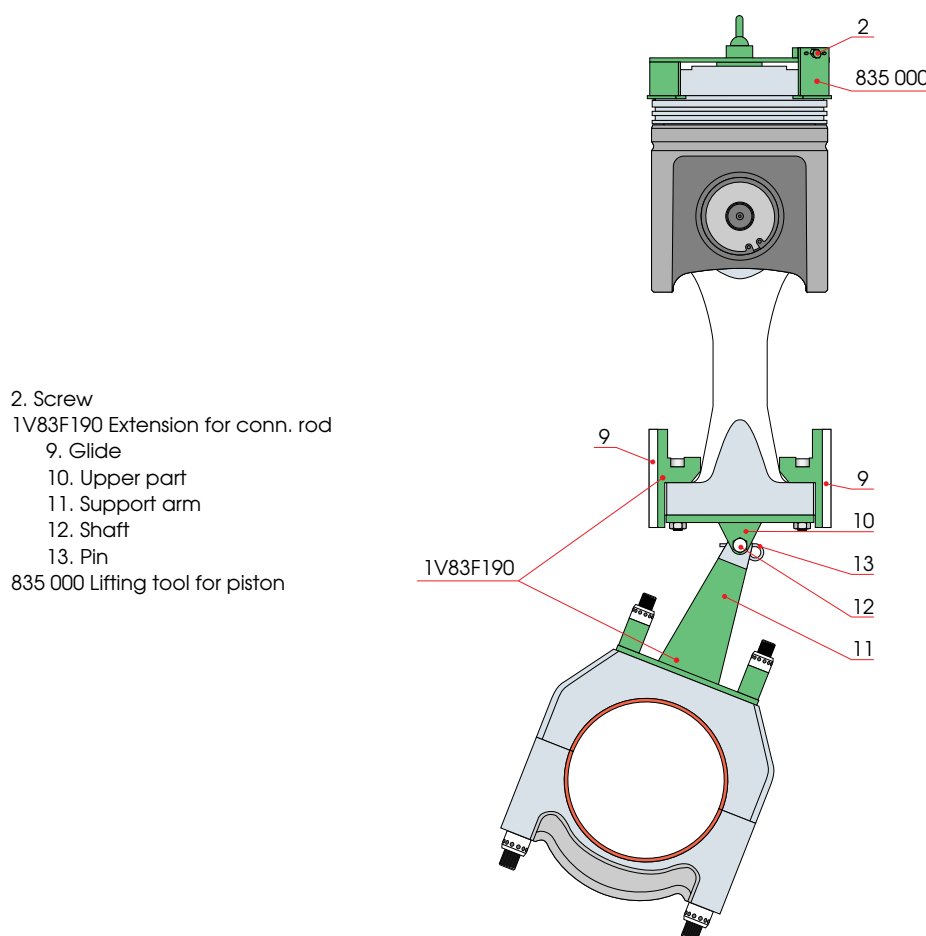

Fig 11-5
- 4** Mount the support arm (11) on the big end by using two (M24) studs and nuts, see Fig 11-5. Tighten by hand.
- 5** Mount the glides (9) into the position, lift the upper part (10) into the position and tighten the nuts.
- 6** Rotate the crankshaft towards TDC until the shaft (12) can be mounted. Secure by the pin (13).